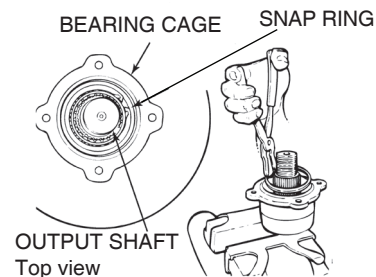

Figure 5.91
5. Install the snap ring that fastens the outer cap in the cage. The snap ring controls the clearance of the output shaft bearing. Figure 5.91.